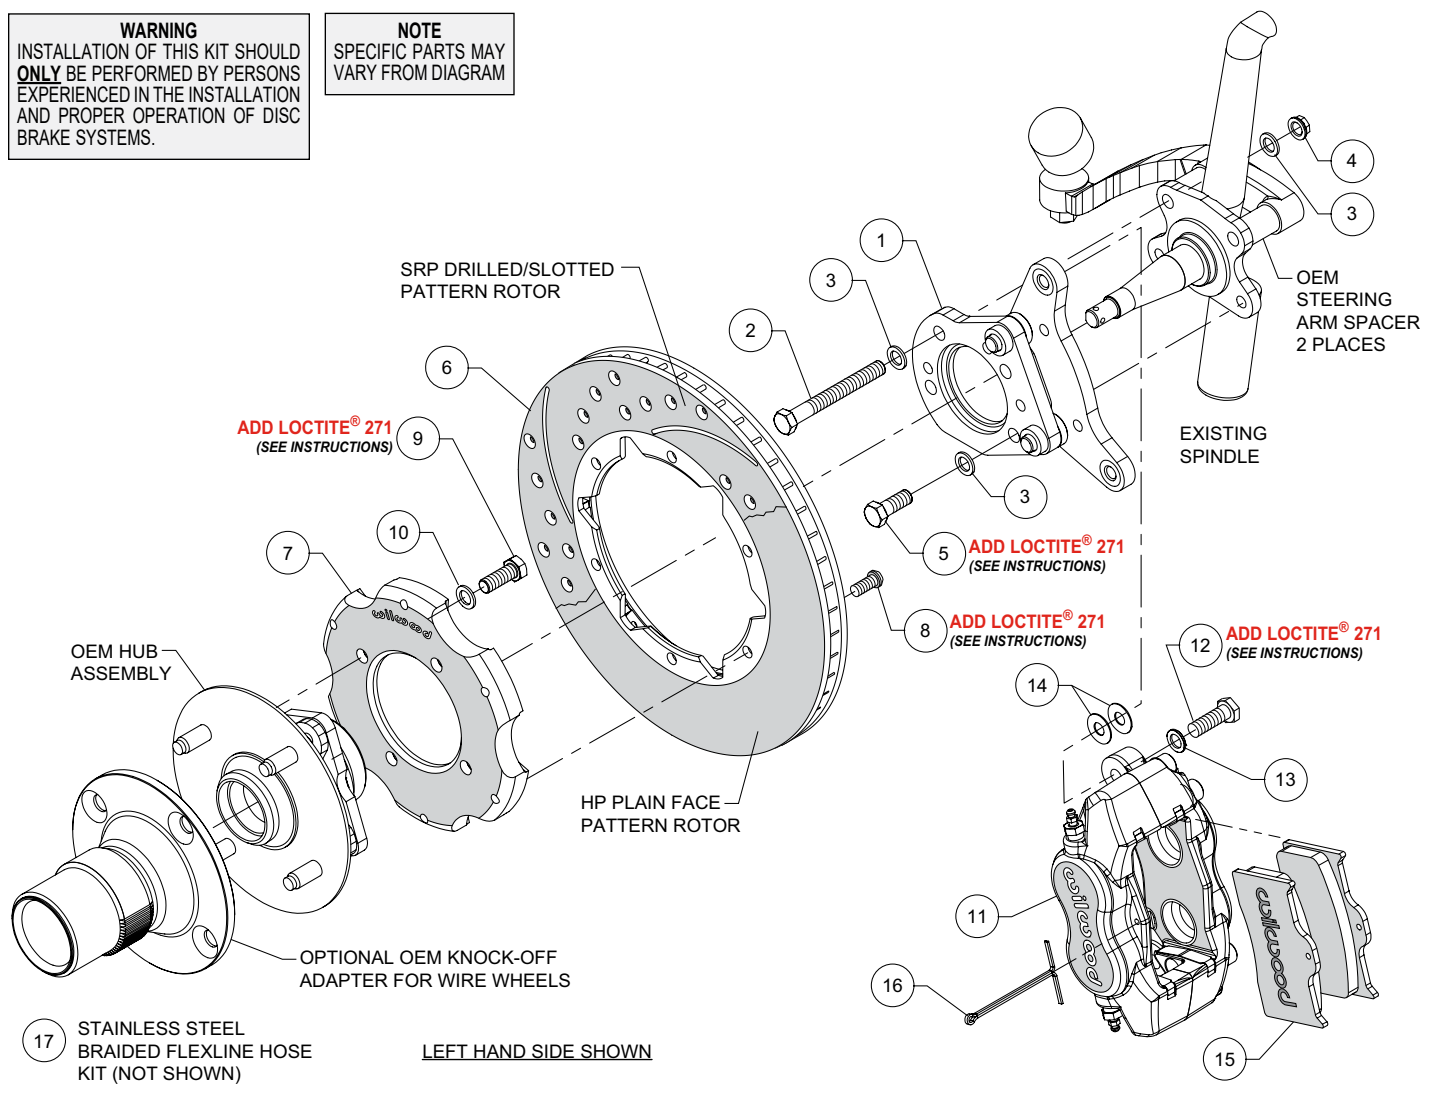

Figure 1. Typical Installation Configuration
NOTE: Numbers in parenthesis refer to the parts list and Figure 1 on the preceding pages.
- Orient the caliper mount bracket (1) as shown in Figure 1 and Photo 1, and install using bolts (2), washers (3) and nuts (4) on the upper bracket mounting holes, reinstalling the stock steering arm spacers between the new bracket and the steering arm. Install bolts (5) and washers (3) on the bottom bracket mounting holes. Ensure that the flanged heads of the clinch nuts in the bracket are facing outboard, Photo 1. Temporarily tighten the mounting bolts. **NOTE:** The bracket must fit squarely against the face of the spindle. Inspect for interference from casting irregularities, machining ridges, burrs, etc. Torque locknuts (4) to 30 ft-lb. Remove lower bolts (5) one at a time, apply red *Loctite*® 271 to the threads and torque to 30 ft-lb.
- Orient the rotor (6) and the hat (7) as shown in Figure 1 and Photo 2. Attach rotor to hat using bolts (8). Apply red *Loctite*® 271 to the bolt threads and torque to 25 ft-lb using a criss-cross pattern.
- Orient the rotor/hat assembly (6 and 7) and the OEM hub assembly as shown in Figure 1. Attach rotor/hat to the back of the stock hub using bolts (9) and washers (10). **NOTE:** The hat must fit flush against the hub or excessive rotor run out may result. Apply red *Loctite*® 271 to the threads, and torque to 30 ft-lbs.
- Install the hat/rotor/hub assembly onto the spindle using OEM components assembled in the reverse order as disassembly, Photo 3. Snug down the spindle nut and check for interference between the bracket (1) assembly bolts protruding thru the clinch nuts and the hat/hub mounting bolts (9) hex heads. Once fitment has been confirmed, adjust bearings per OEM specifications.
- NOTE:** Please reference the caution statement at the beginning of the assembly instructions. Mount the caliper (11) onto the caliper mounting bracket (1) using bolts (12) and washers (13), as shown in Figure 1. Initially place two .035" thick shims (14) on each bolt between the caliper and the bracket, Photo 4. Temporarily tighten